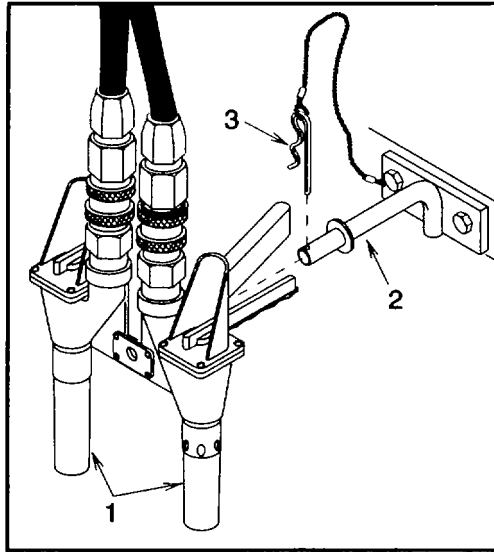

Figure 2-20. Return Fire Hose Nozzle to Operational Ready Condition
- (11) Remove wing nut (6) and flat washer (7). Remove crank (8) from storage position and place on rewind brake shaft (9)
- (12) Using crank (8), wind hose assembly (2) onto drum (10).
- (13) Secure fire hose nozzle (1) (fig 2-20) to nozzle bracket (2) with lock pin (3).